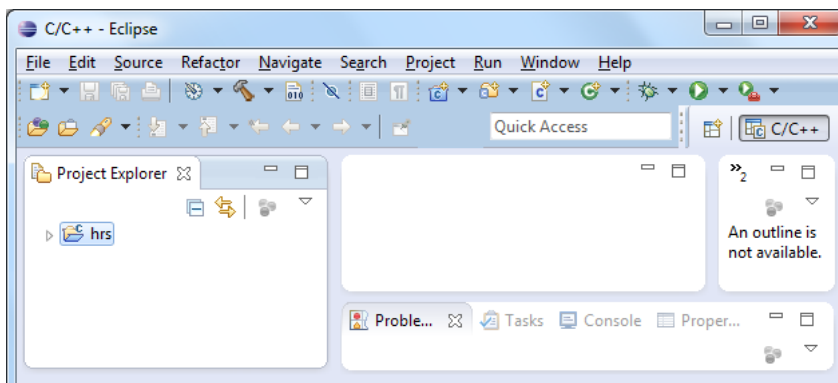

Figure 18: Creating project in Eclipse
5. Click **Finish**. The project should now appear on the Project Explorer tab on the left (Figure 18).